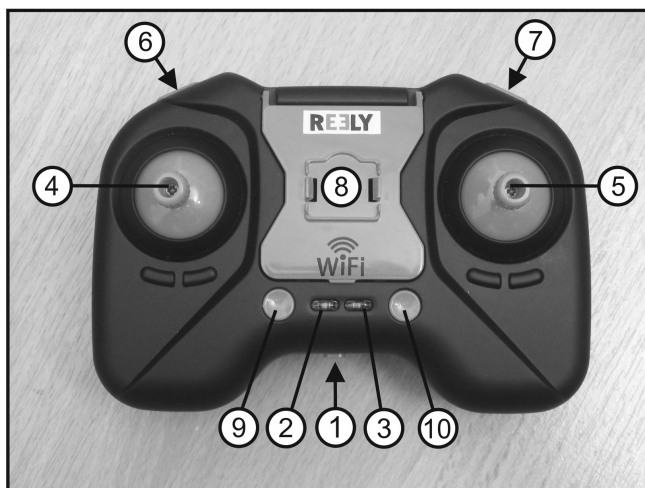
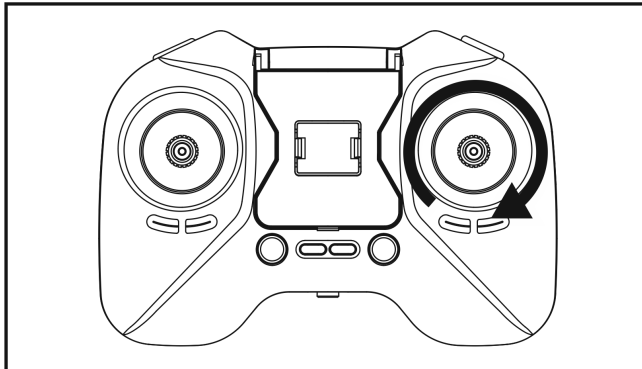

Figure 3
Figure 8
The quadcopter can be charged via charging electronics integrated into the transmitter. For this, open the flap (figure 3, item 8) on the top of the transmitter and connect the charging cable to the quadcopter. The function LED at the transmitter (see figure 3, item 2) lights up green and displays the start of charging. If this LED goes out, the rechargeable battery must be charged completely in the quadcopter.
The battery condition is continually inspected while the transmitter is in operation. If the voltage level of the batteries drops below a certain value, the transmitter will signal this with a permanent flashing of the LED at the transmitter (figure 3, item 2). In this case, stop flying at once and replace the batteries of the transmitter.
Hovering denotes a flight status in which the quadcopter neither rises nor falls so that the upwards directed uplift force is equal to the downwards directed weight. Push the throttle lever (figure 3, item 4) forward to increase the motor speed and lift up the quadcopter. Pulling the throttle lever back causes the quadcopter to drop. If you leave the throttle lever in the middle position, the quadcopter will try to maintain the height.
The quadcopter permits you to choose between three different flight modes depending on your experience. The button for this is located on the transmitter (see figure 3, item 6).
The Sports mode is recommended to pilots who have already collected some experience with other quadcopter models. In this mode, the quadcopter is much more agile in its control conduct than in beginner's mode. To activate sport mode, push the corresponding button on the transmitter (figure 3, item 6). The sport mode is confirmed with a double control sound.
- Set the switch for the motor speed (see figure 3, item 4) to the rear position. Then turn on the remote control transmitter by pushing the on/off switch (see figure 3, item 1). The transmitter confirms this with a signal sound. The control LED at the transmitter (fig. 3, item 2) will flash quickly.
- Now push the left control lever (figure 3, item 4) forward until a control sound sounds.
- Pull the left control lever (figure 3, item 4) backwards until a control sound sounds. The indicator LED at the transmitter will now remain lit.
- Calibrate the sensors in the quadcopter by turning the right control stick (figure 3, item 5) once in a circle clockwise at the respective full deflection (see figure 8). Calibration starts when the rear red LEDs at the quadcopter flash briefly. Calibration is complete when these LEDs are permanently lit again.
- Start the rotors by carefully moving the control stick (figure 3, item 4) forward. If you want to switch off the rotors again, pull only the left control stick (figure 3, item 4) back to the rear position.
To trim the model, push the button "Trimming" (see figure 3, item 7). Only push the buttons briefly until you can hear a double signal and the LED of the function check (see figure 3, item 2) flashes. The model is in trim mode while the LED at the transmitter and, when the right control stick is actuated, the LEDs of the quadcopter, flash.
The model can perform a flip (a 360° turn) at the push of a button. For this, put the quadcopter back in a stable hover flight at a minimum flight altitude of 1.5 metres (at sufficient distance from the pilot and the obstacles, at least 2 metres). Now briefly push the right control stick (figure 3, item 5) vertically down. The transmitter will emit a control sound at an even rhythm to confirm that you have chosen flip mode. The control sound will remain activated until the flip is completed.
The model can perform "spinning" (quick 360° turns around its vertical axis) on the push of a button. The flight altitude may be influenced during this by making the corresponding control movements on the left control stick (figure 3, item 4). For this, put the quadcopter back in a stable hover flight at a minimum flight altitude of 1.5 metres (at sufficient distance from the pilot and the obstacles, at least 2 metres).
Now push the "spinning button" (figure 3, item 10) briefly. The transmitter will emit a control sound to confirm that you have chosen spinning mode. The quadcopter will start to spin quickly around its vertical axis. End spinning mode by pushing the button for spinning (figure 3, item 10) again or by moving the right control stick in any direction.